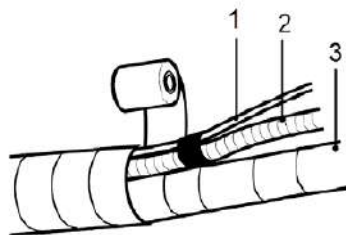

fig. 24 -
- After wrapping the pipes with protective material, connect the electric connection cable (1-"fig. 24 -"), the condensation drain hose (2-"fig. 24 -") and the pipes (3-"fig. 24 -").